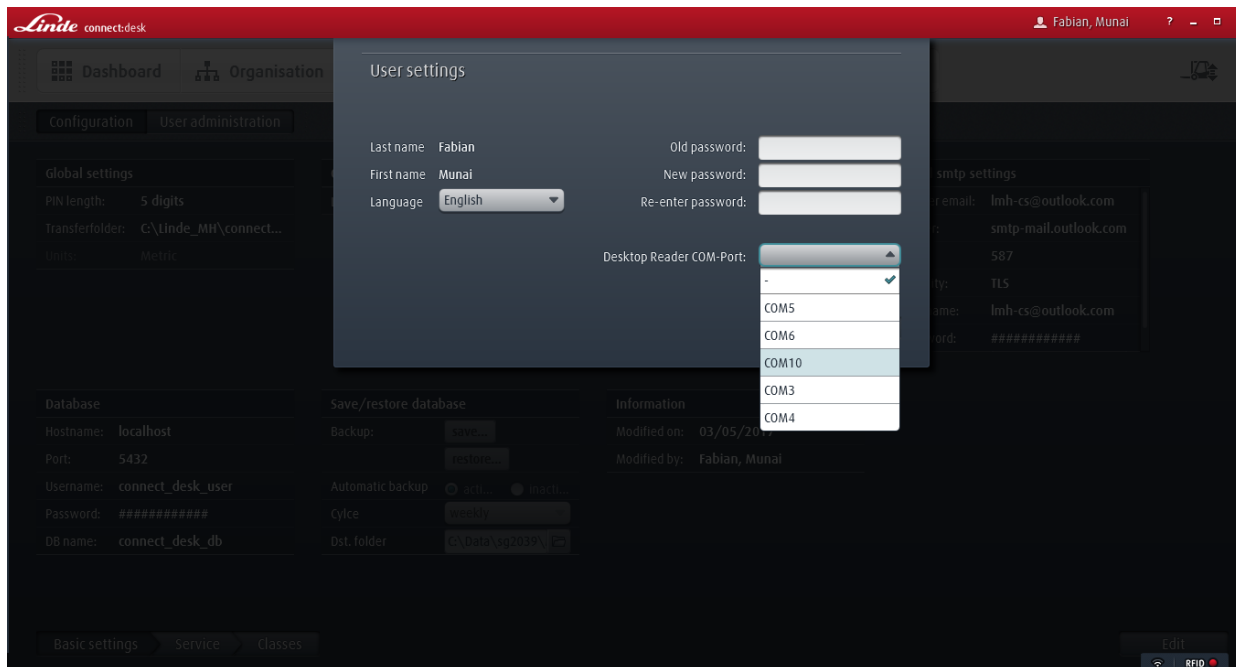

Figure 1-12: User settings, desktop reader
5. On figure 1-12, chose the correct desktop reader COM Port.